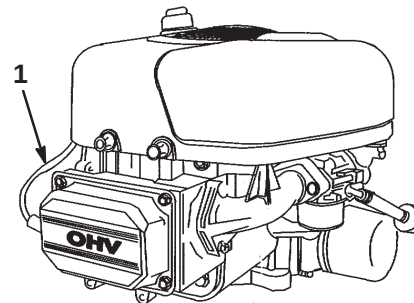

Figure 20
6. Disconnect the wire from the spark plug (Fig. 20).
- Connect the wire to the spark plug (Fig. 20).